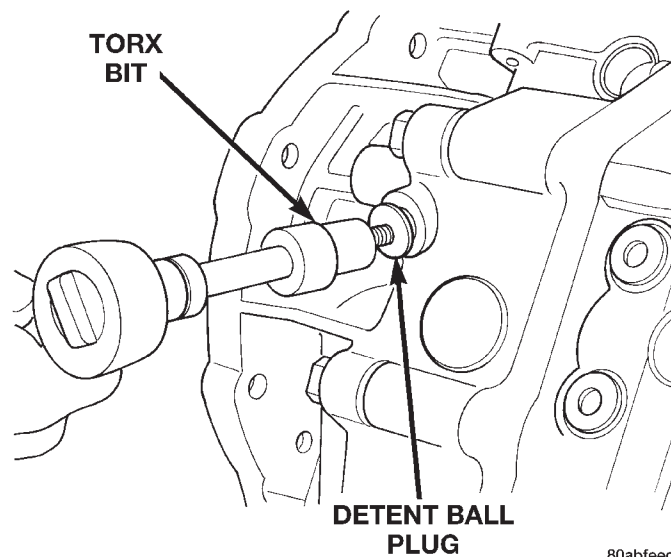

Fig. 46 Install Detent Ball Plug
(18) Install detent plug and tighten to 19 N·m (14 ft. lbs.) (Fig. 46).